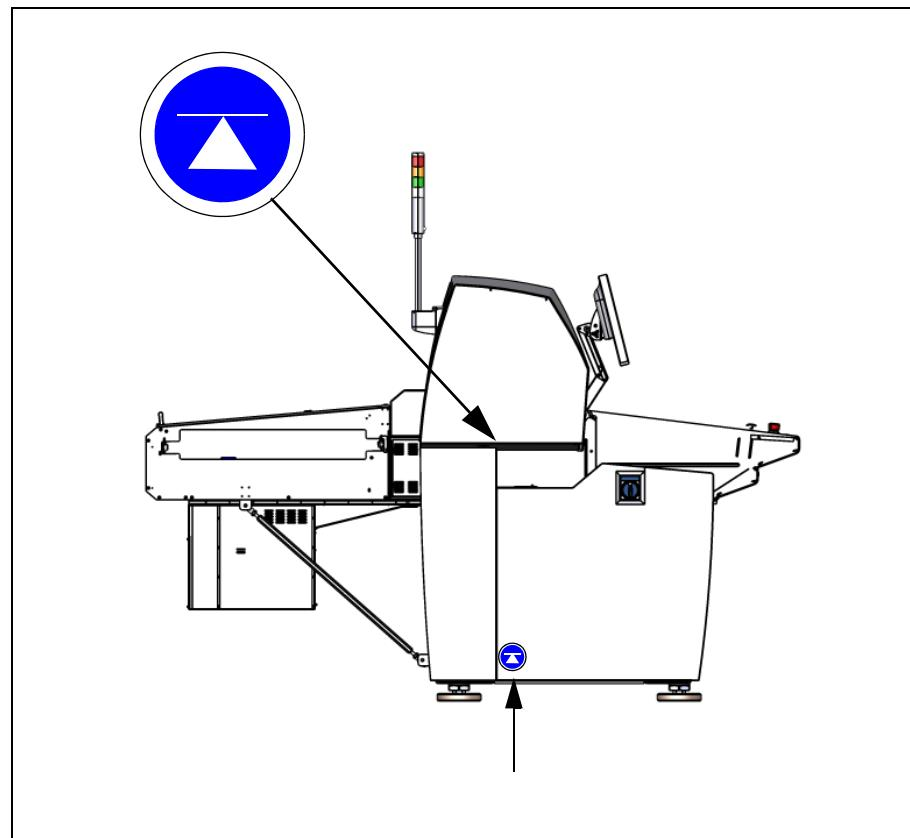

Figure 2-9. Center of gravity label.
*CAUTION! Due to the rigid design of the machine frame, the center of gravity is **not** at the exact center of the machine gable. The center of gravity is slightly shifted against the back end of the machine. The actual center of gravity is indicated by a label located at the lower end of the machine gable (see Figure 2-9).*